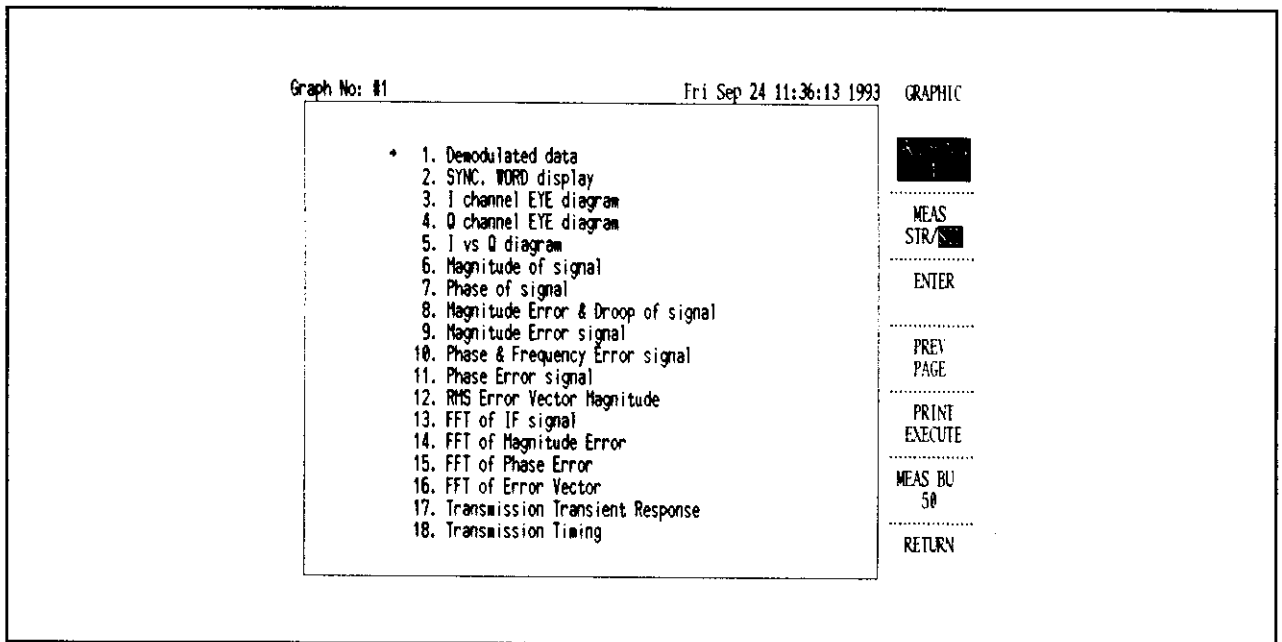

Figure 4-1 Measurement Data Analysis Menu
- ① Press the keys in the order **SHIFT**, **6**, **NEXT MENU**, **MEAS MOD ACCURACY** and **NEXT PAGE** to display the specific (exclusive) menu as shown in Figure 4-1.